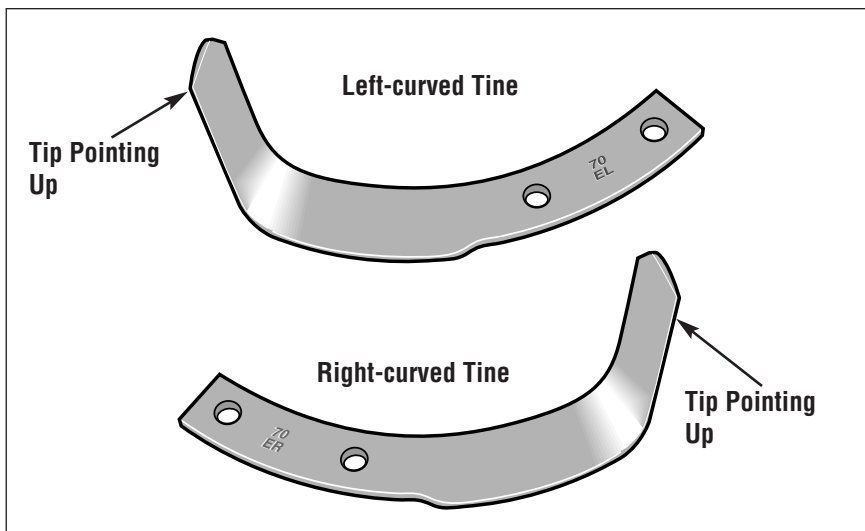

Figure 1: Left-curved tines and right-curved tines.
A. Letters and numbers may be stamped on the side of each tine with factory code marks which contain either an "L" (on left-curved tines) or an "R" (on right-curved tines). See Figure 1.